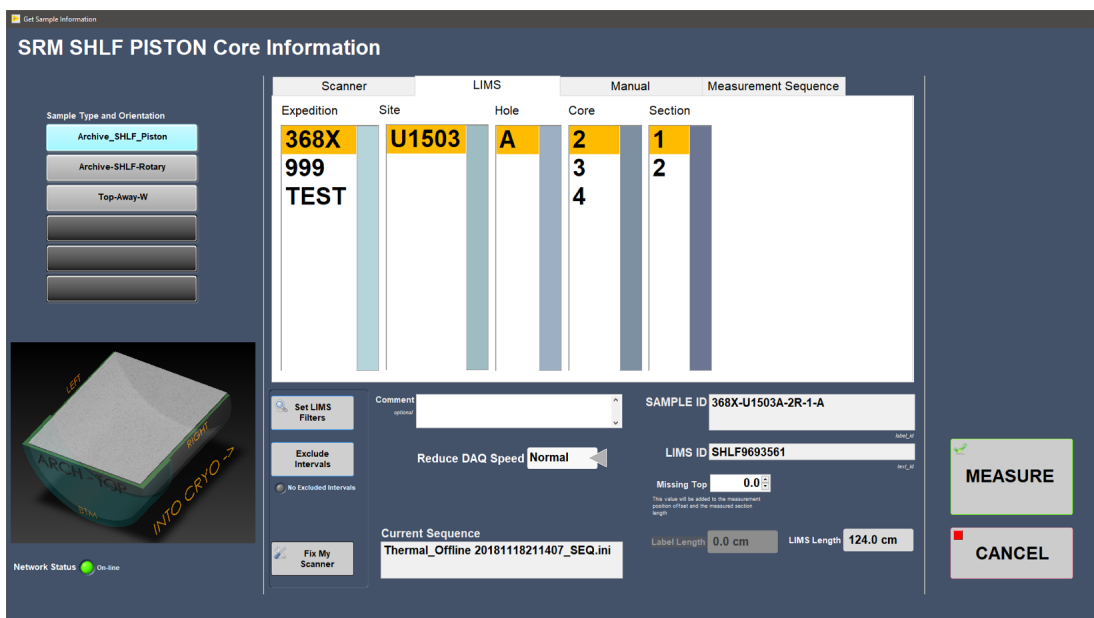

Figure 22- Sample Information Window: Section Half
- **LIMS mode:** Select a section using the hierarchy columns (**Figure 22**). Only the sections/cores that match your preset will display (e.g., if you select an archive half section preset, only archive half sections will be displayed).